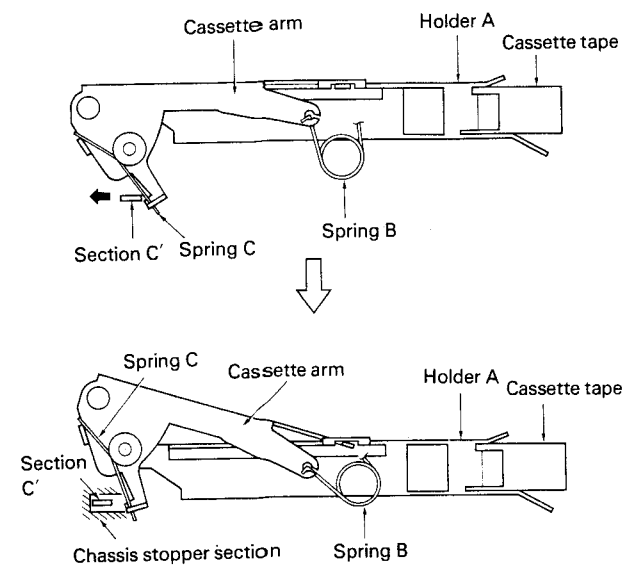

Fig. 14
- As shown in Fig. 14, the "C" unit of arm "C" connects to the cassette arm (which suspends the cassette tape) through spring "C". The arm "C" movement described above in paragraph five makes the "C" unit move in the direction indicated by the arrow in Fig. 14. The cassette arm pushes down holder "A" by means of spring "B". The "C" unit is released when holder "A" drops down.